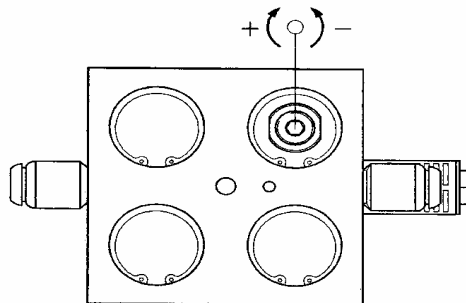

Figure 3
- The automatic raise pressure margin adjustment screw is shown in (Figure 3). With the regulation screw in the minimum pressure position (nut level), the automatic raise pressure margin will be adjusted to approximately the minimum margin, 17.5psi.